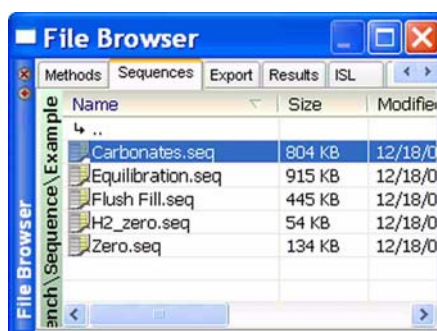

Figure 3-70. Predefined sequences as examples
1. Click on the **Sequences** tab of the File Browser. See Figure 3-70.